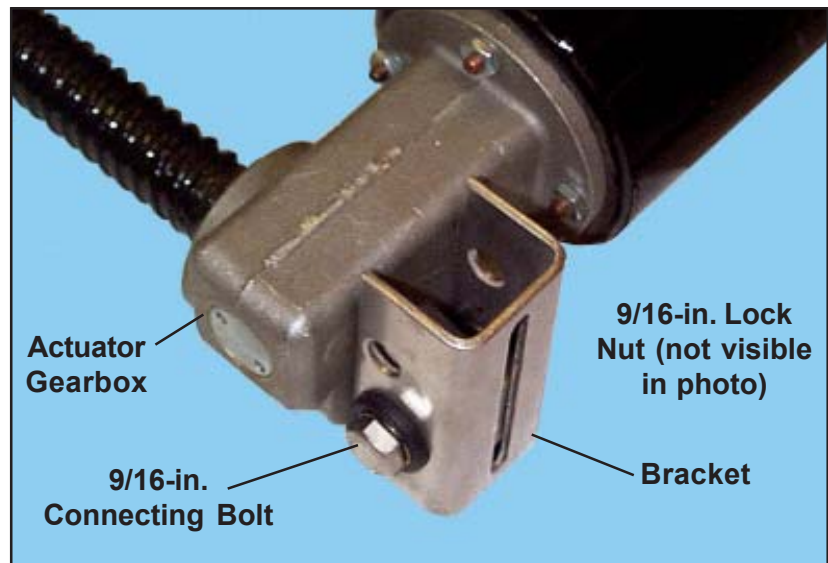
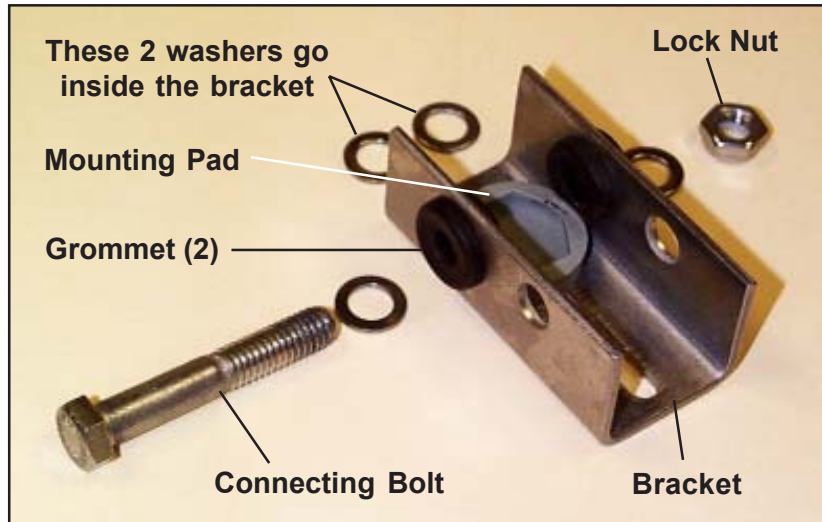

Figure 31. Actuator and Bracket
Figure 33. Actuator Bracket and Mounting Hardware
22. With two 9/16-in. wrenches, remove the connecting bolt, four washers, and lock nut from the actuator and actuator bracket (Figure 31), and separate the bracket from the actuator gearbox.
1. Assemble the actuator and bracket with the connecting bolt, four washers and lock nut as shown in Figure 31. Refer to Figure 33 for assembly sequence. **Note:** Do not tighten the bolt fully. Leave a little slack so that the bracket can pivot slightly. This allows it to seat properly and conform to the actuator position. Also, make sure that the bottom of the actuator fits neatly into the mounting pad in the bracket.
1. Note the position of the mounting pad in the bracket (Figure 33). The new pad must be located identically.